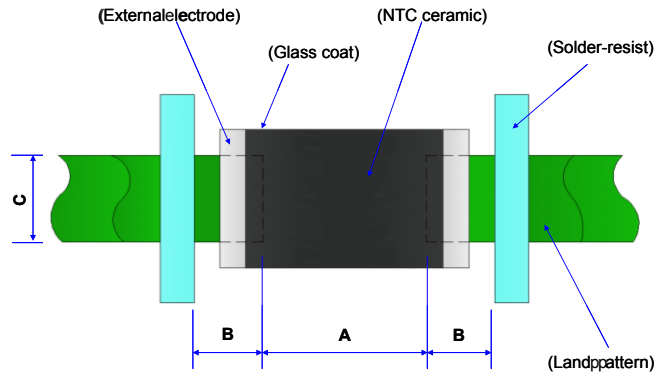

Fig.2
- Recommended PCB pattern for reflow soldering: See Fig.2 and Table 1